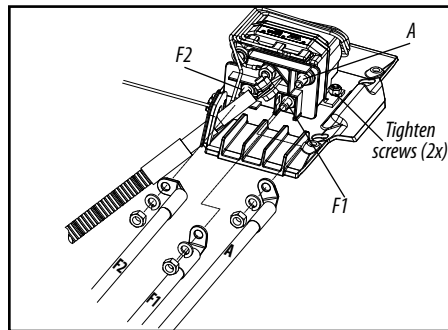

Figure 7
- Using the terminal nuts and lock washers removed in previous step, connect the labeled cables (A, F1 and F2) to corresponding contactor terminal. Torque nuts to 8.5 - 9 N-m (75-80 in. lb.). Refer to Figure 7.
- Once the cables have been installed, reinstall the cover using the four (4) flat head torx drive screws previously removed. Refer to the torque section of this document.